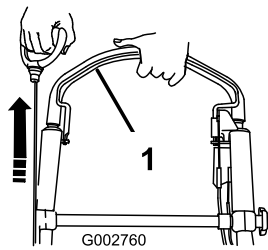

Figure 21
3. Hold the blade control bar against the handle (Figure 21).
4. Start the engine using the recoil starter (Figure 21).